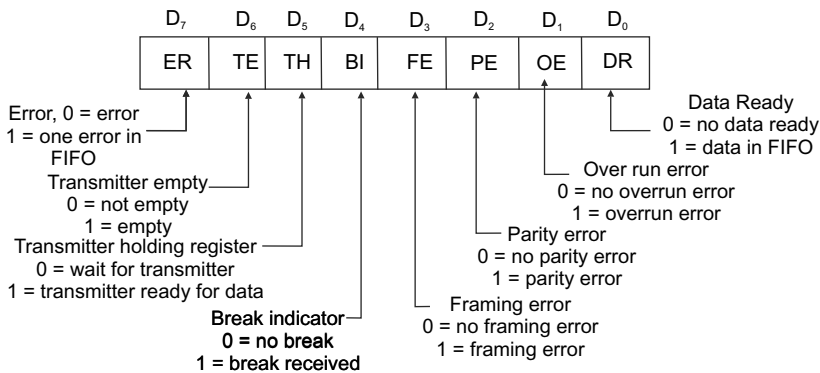

Fig. 9.101 Line status register
- ✓ **Line Status Register** This register provides status information to the CPU related with the data transfer. Figure 9.101 shows the line status register.